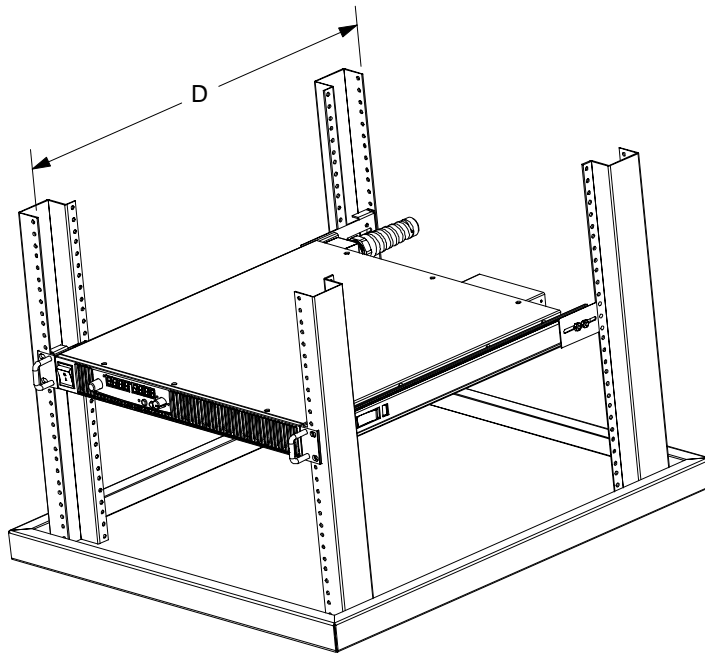

Figure 4 Finding rack depth
1. Find your rack depth (D), which is the distance between the front and back flanges. See Figure 4.